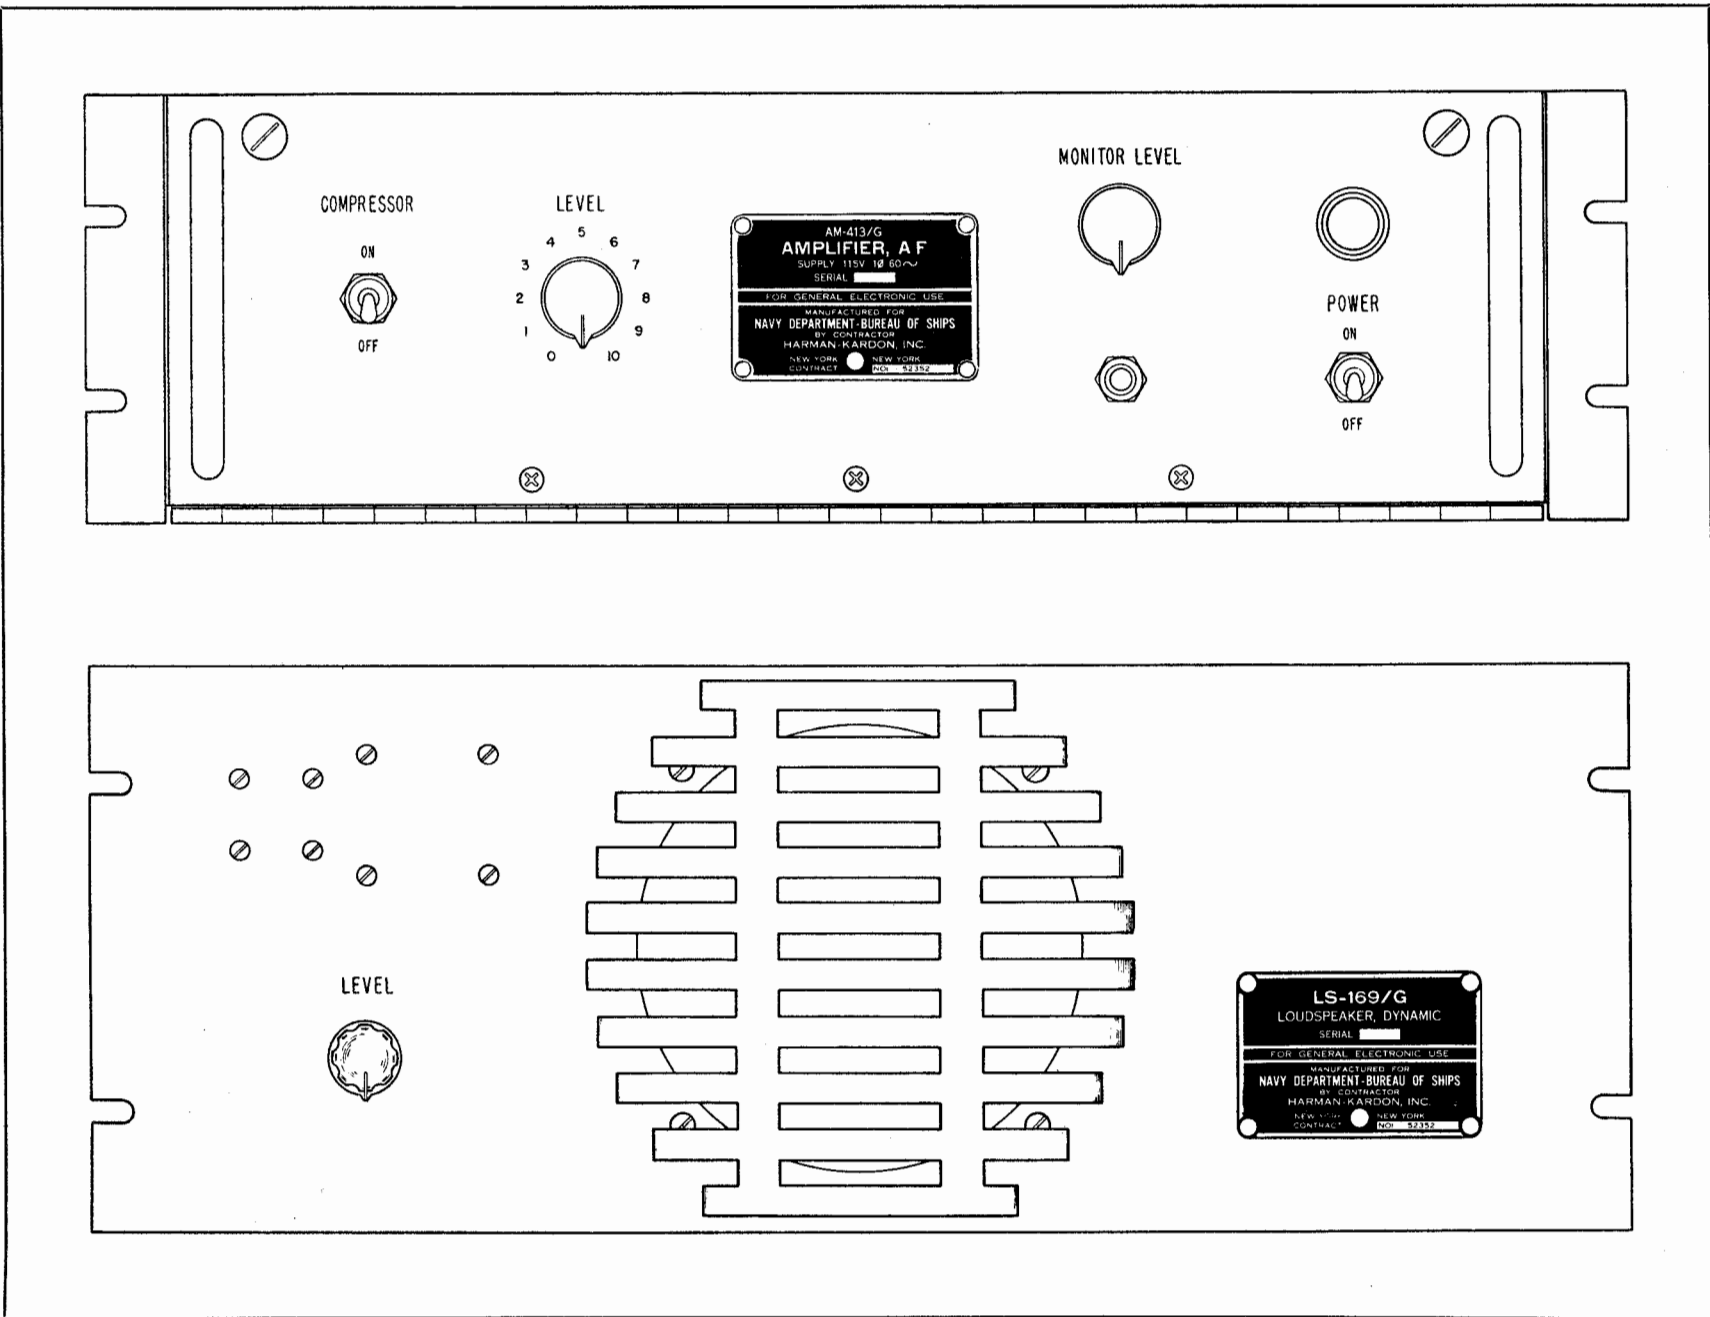

Figure 1-1. Audio Amplifier AM-413/G and Dynamic Loudspeaker LS-169/G
2. A. F. AMPLIFIER AM-413/G (See figure 1-1)
(See figure 1-1)
4. EQUIPMENT SUPPLIED (See figure 1-1)